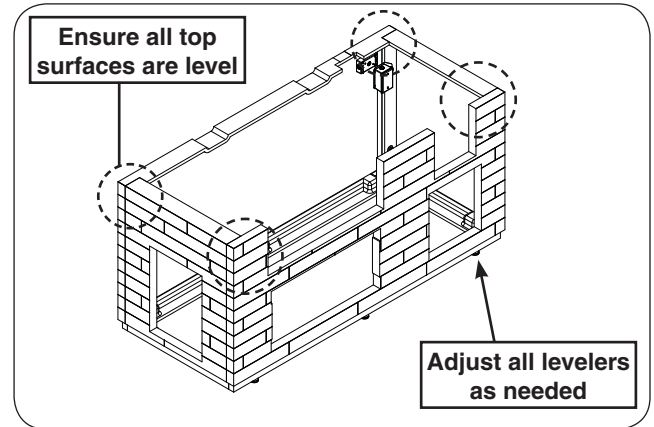

Fig. 8-2 Level assembly
1. Use the level to ensure the top surfaces of the assembly are level. The levelers at the bottom of the island may be adjusted as needed with a  $\frac{1}{2}$ " open end wrench. See Fig. 8-2.